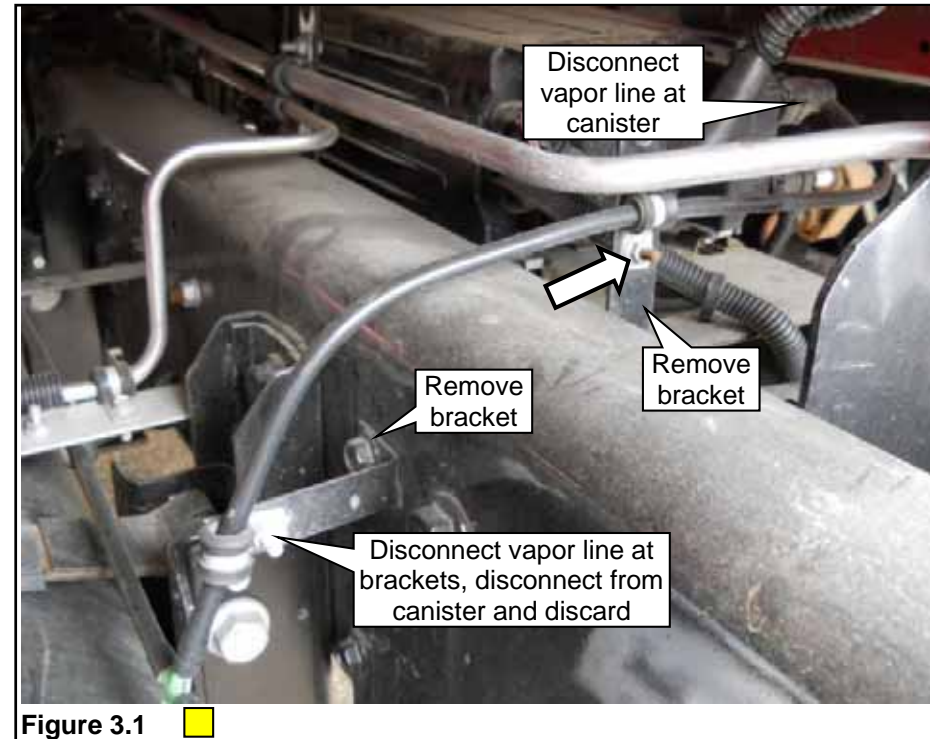

Figure 3.1
1. Remove the vapor line assembly from the P-clamps on the frame rail and from the evaporative canister. Disconnect the vapor line quick-connect at the canister. Remove the vapor line support brackets to avoid interference with the new fuel tanks. **Figure 3.1.**